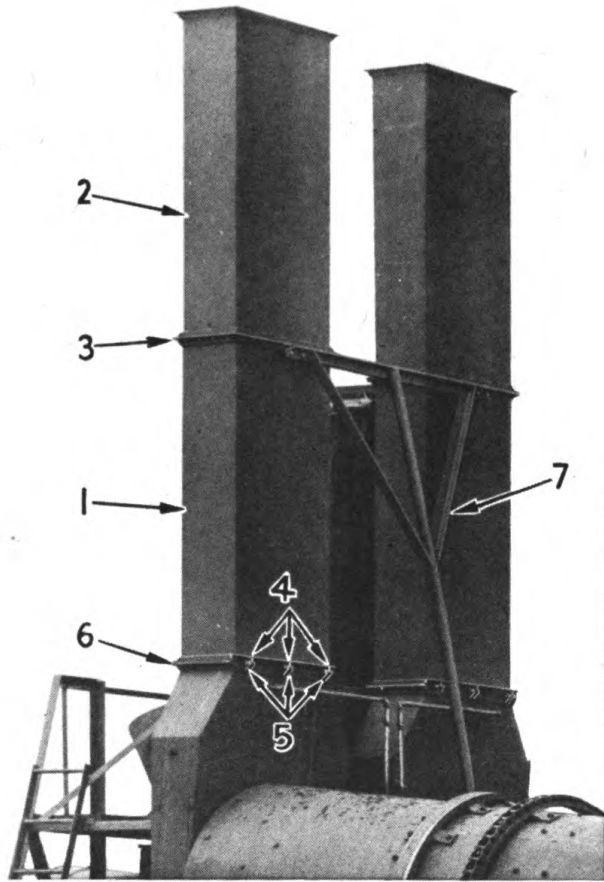

FIG. 40 - DRYER EXHAUST STACKS.
1. Lay out the two sections (1) and (2) Fig. 40, comprising each stack, on the ground and bolt the sections together at the joint (3).
3. Lift the hinged end and move it in position so that the hinged part of the stack section (4) coincides with the hinged part of the stack base (5).
5. Swing the stack up into position, as shown, and secure the stack to the stack base by inserting bolts in all holes in the joint flange (6).
6. After both stacks have been bolted in position, install the stack brace (7), the upper end fastening to the joint of the upper stack sections, and the lower end fastening to a point between the dryer drums on the dryer main frame.